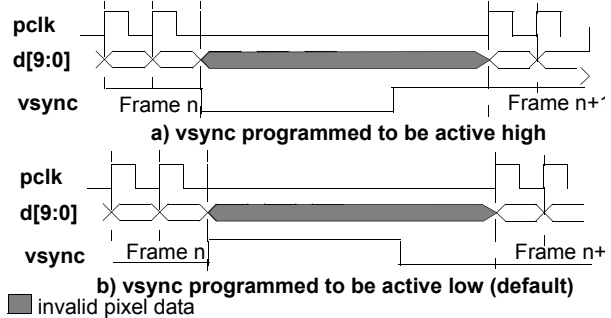

Figure 46. *vsync* in Pulse Mode
- **Pulse mode** should be used when the pixel clock, *pclk*, is programmed to operate in *data ready mode*. In pulse mode the *vsync* output pin will produce a pulse at the end of each frame. The width of the pulse will be a minimum of four *hclk* cycles and its polarity can be programmed as shown in Figure 46. The *vsync* level is always synchronized to the active edge of *pclk*. The *vsync* pin is put into pulse mode by setting the *VsyncMode* bit of the *DVBUSCONFIG1* register to a logic 1. The active level of the *vsync* pulse is programmed using the *VsyncPol* bit of the *DVBUSCONFIG1* register.